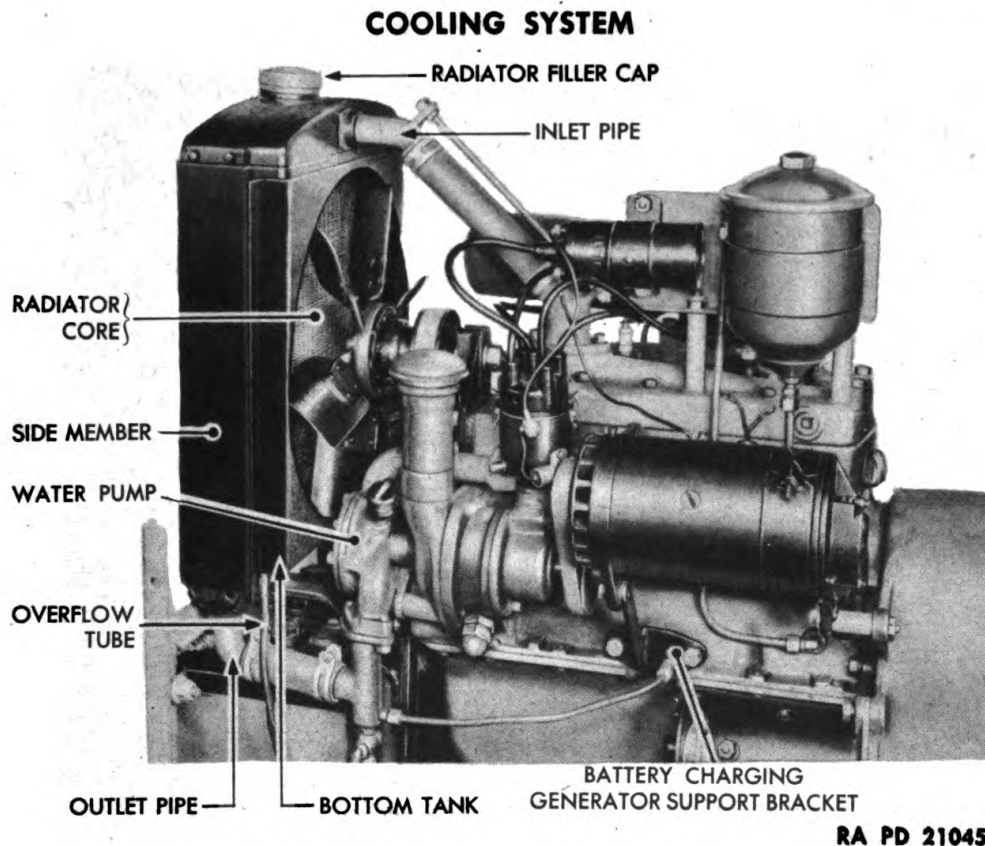

Figure 11 – Radiator Assembly and Connections
(1) When servicing for summer, fill the system with clean water. Add COMPOUND, inhibitor, corrosion (Federal stock No. 51-C-1600) in the proportion of 1 container of inhibitor to each 4 gallons of cooling system capacity. Then fill the system with water.
(2) When servicing for winter, fill the system about one-quarter full of clean water. Add sufficient COMPOUND, antifreeze (ethylene glycol type), for protection against the lowest temperature likely to be encountered (par. 24). Fill the system with water and run the engine until normal operating temperature is reached. Then add sufficient water to fill the system to the proper height.
38. RADIATOR (fig. 11).